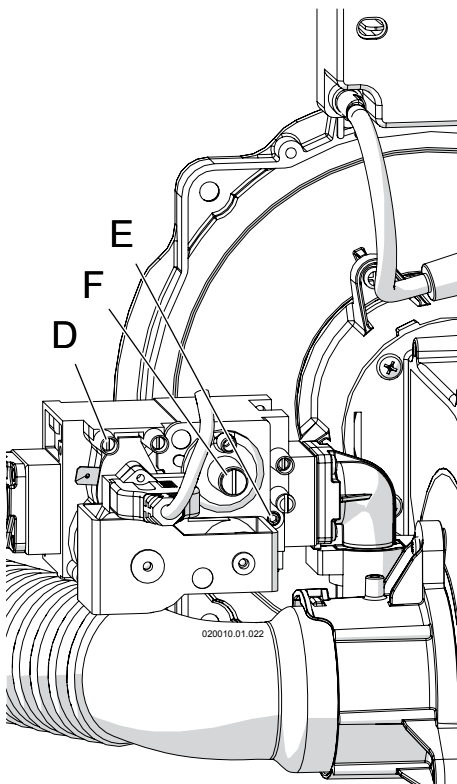

Figure 14-1 Gas valve
- 3.- Turn the screw in pressure port "D" shown in Figure 14-1 three turns counterclockwise;
- 4.- Connect a manometer with graduations of at least 0.1 in.W.C. (0.25 mbar) to the inlet gas port "D" shown in Figure 14-1 (on unit model 399 to 1000, choose the pressure port "D" from any gas valve present);
- 3.- Turn the screw in pressure connection "D" in Figure 14-1, clockwise until snug;
- 4.- Check pressure port "D" (Figure 14-1) for any gas leaks;
the high fire range given in Figure 13-7, making sure to use the range for the gas type in use. If the CO2 reading is outside the specified range, it must be adjusted operating on the "E" screw of Figure 14-1. Use a 2.5mm Allen Wrench to turn the screw (clockwise to reduce the CO2 level, counter-clockwise to increase the CO2 level) in small increments and wait for the CO2 to stabilize to prevent overshooting the desired value;
- e.- Compare the CO2 reading with the high fire range given in Figure 13-7, making sure to use the range for the gas type in use. If the CO2 reading is outside the specified range, it must be adjusted operating on the “E” screw of Figure 14-1 of the gas valve closer to the burner unit in fire. Use a 2.5mm Allen Wrench to turn the screw (clockwise to reduce the CO2 level, counter-clockwise to increase the CO2 level) in small increments and wait for the CO2 to stabilize to prevent overshooting the desired value;
- f.- When CO2 level match the value of Figure 13-7, seal screw “E” (Figure 14-1) with red paint or nail polish to discourage tampering;